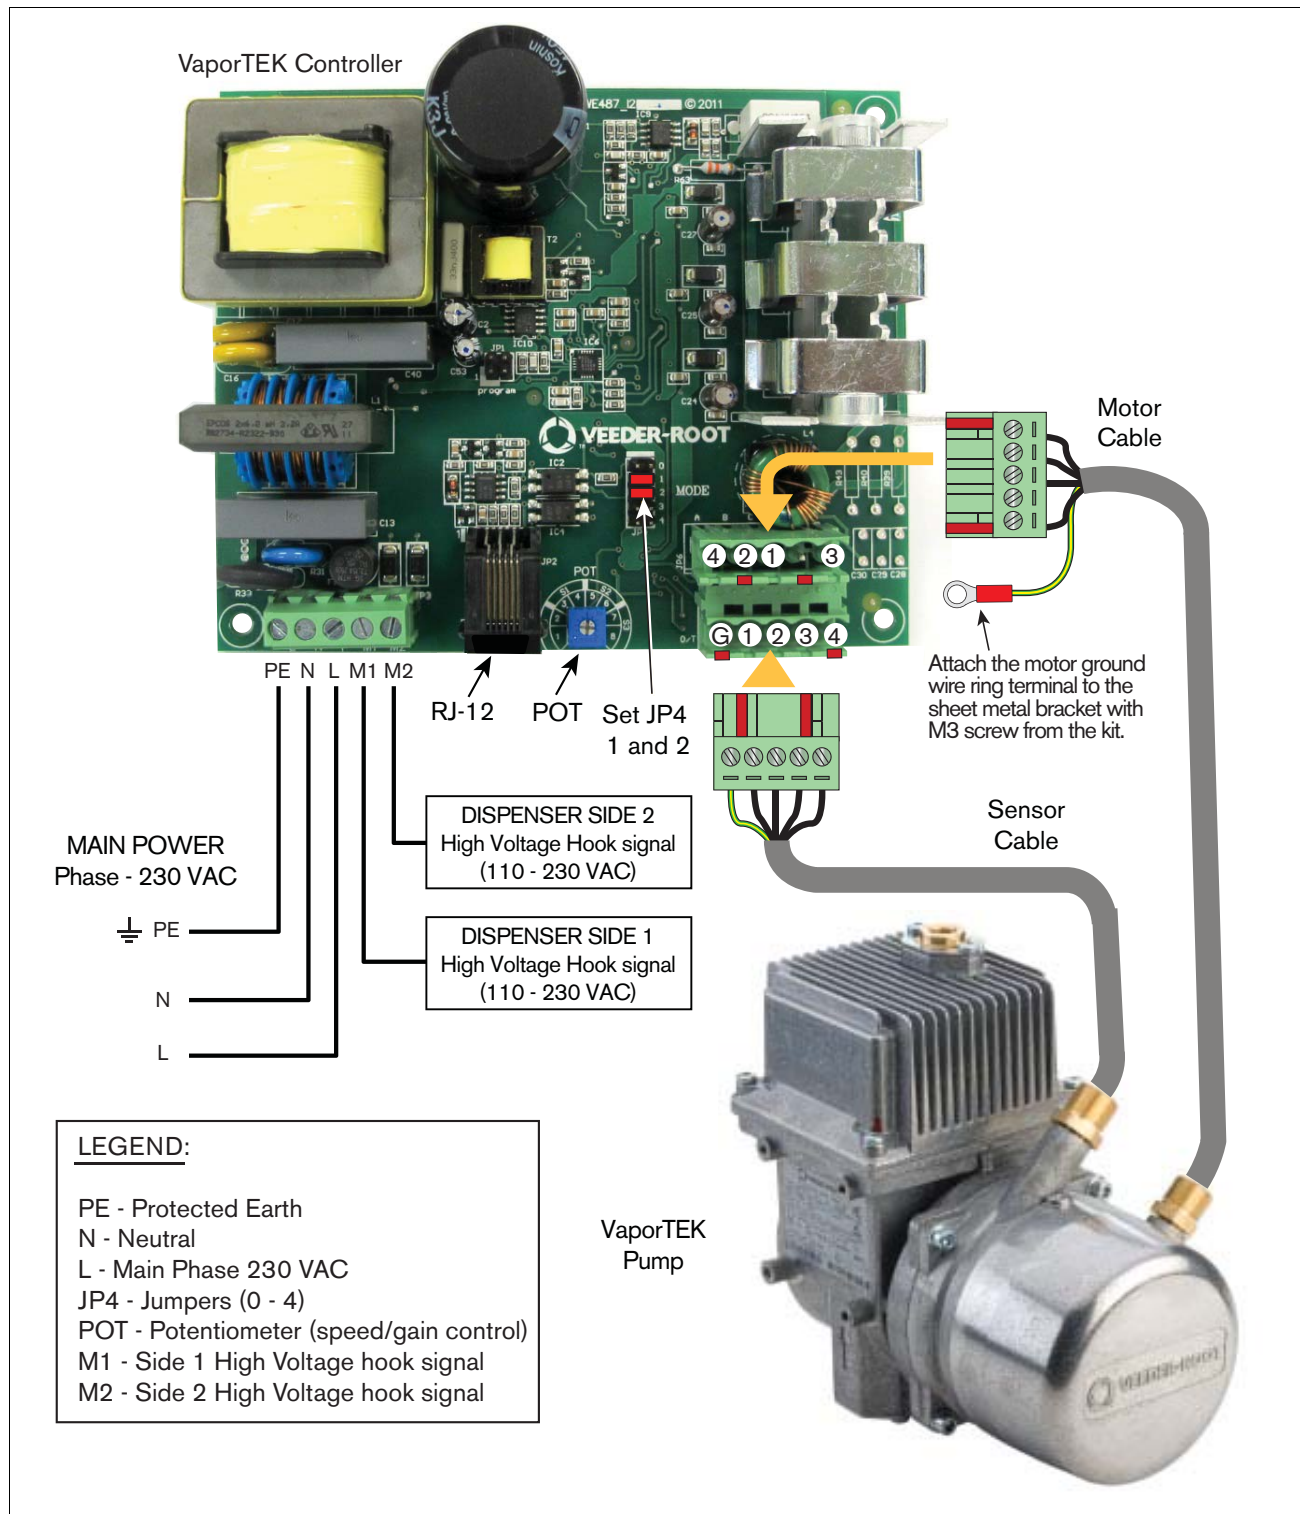

Figure 11. VaporTEK System - High Voltage Hook Signal Input
2. VaporTEK with High Voltage Hook Signal (see Figure 11)
- b. Set two jumpers in positions 1 and 2 on JP4 (see Figure 11).